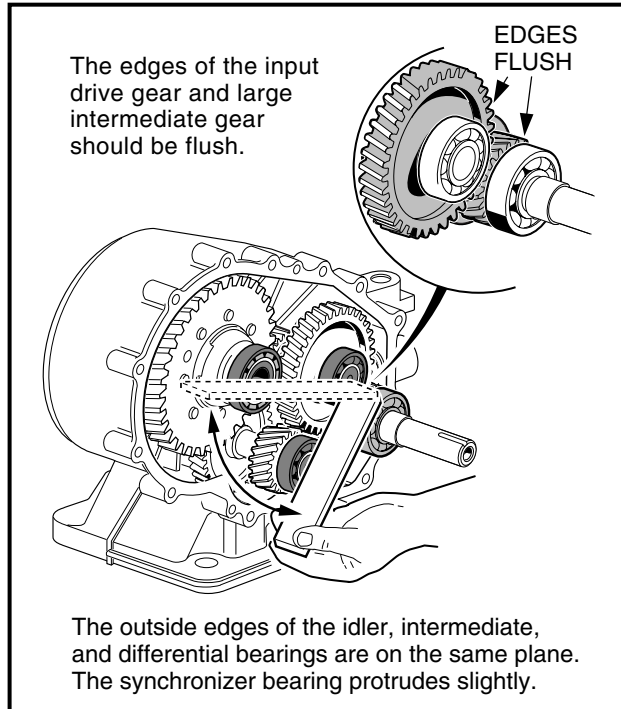

Figure 19-55 Assembly Gear Alignment
- 7.6. Keep the gears meshed as a group and work all of the gear assemblies into the bores until they are seated. When all of the assemblies are correctly seated, the outside edges of the input drive gear (55) and the intermediate gear (61) (**Figure 19-14, Page 19-10**) should be flush (on the same plane) (**Figure 19-55, Page 19-26**). Also, the outside surfaces of the idler gear bearing, the intermediate gear bearing, and the differential gear bearing should be flush (**Figure 19-55, Page 19-26**). **See following CAUTION.**